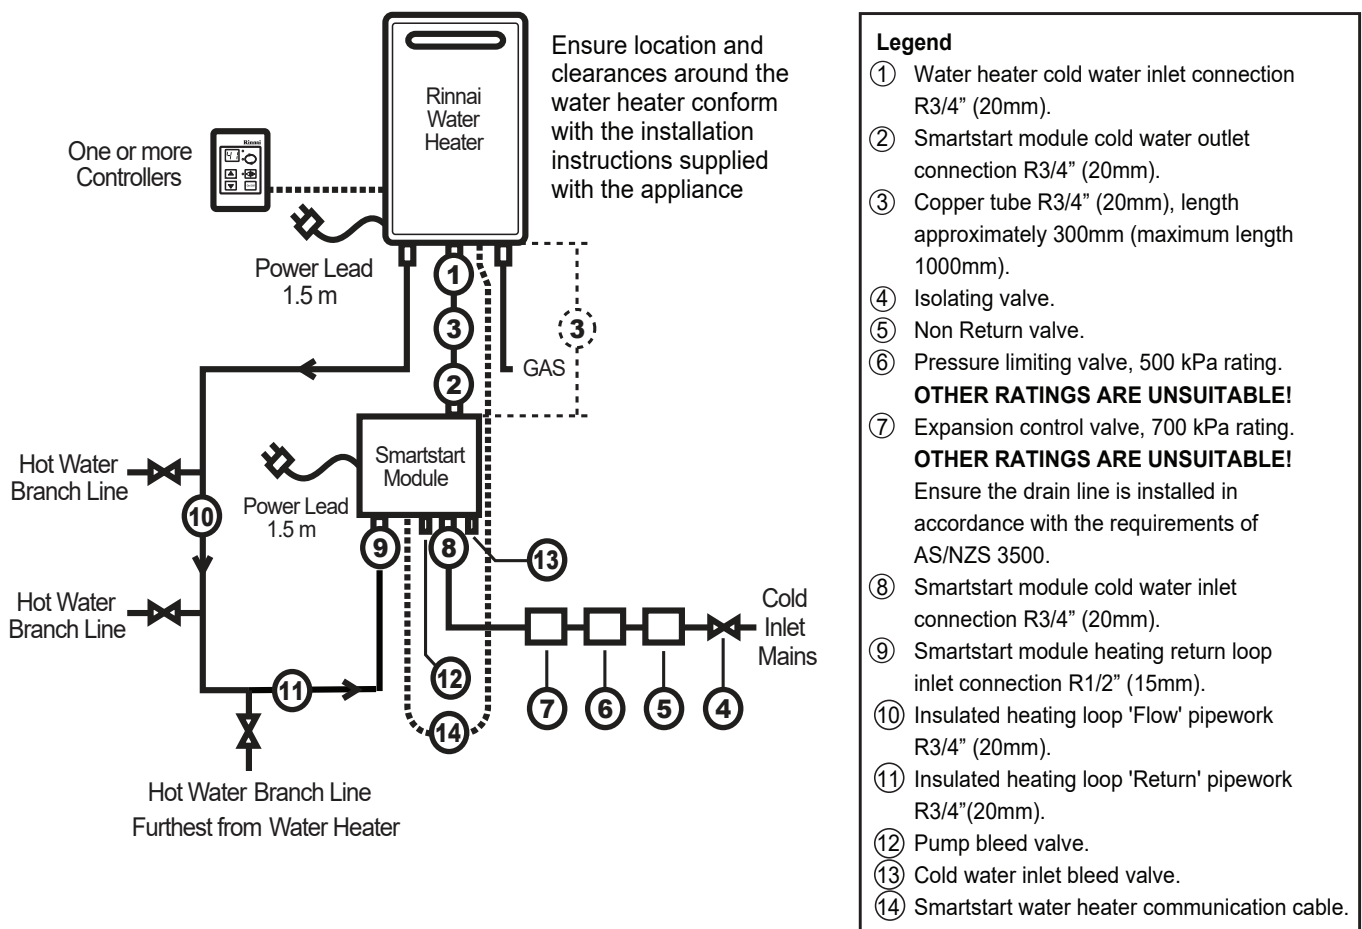

Figure 3.
Refer to diagram below (Figure 3)
Positions and sizes of the connection points to the water heater and pipework are shown in Figure 3 and the Dimensional drawings.
2. Mount the Smartstart module so the top edge of the enclosure is approximately 300 mm below the Rinnai water heater with the water outlet connection of the Smartstart module in line with the water inlet connection of the Rinnai water heater as shown in Figure 3 on page 7.
6. Open the Smartstart module Pump and Cold Water inlet bleed valves items ⑫ & ⑬ of Figure 3 on page 7, (actual position of 'bleed valves' is shown on dimensional drawing) until all air pockets are released and a steady stream of water is discharged.